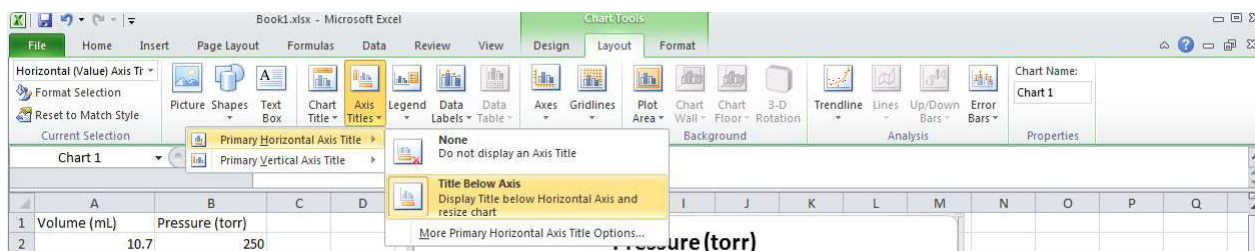

Figure 7.9: Scatter plot with new x and y axis marks. credit: author
5. Chart Tools: The current version of Excel uses a tabbed/ribbon menu system has placed many useful tools for formatting your graph in 3 locations as shown below in Figure 7.9 which shows the Layout tools and has the Axis Titles sub menu highlighted.